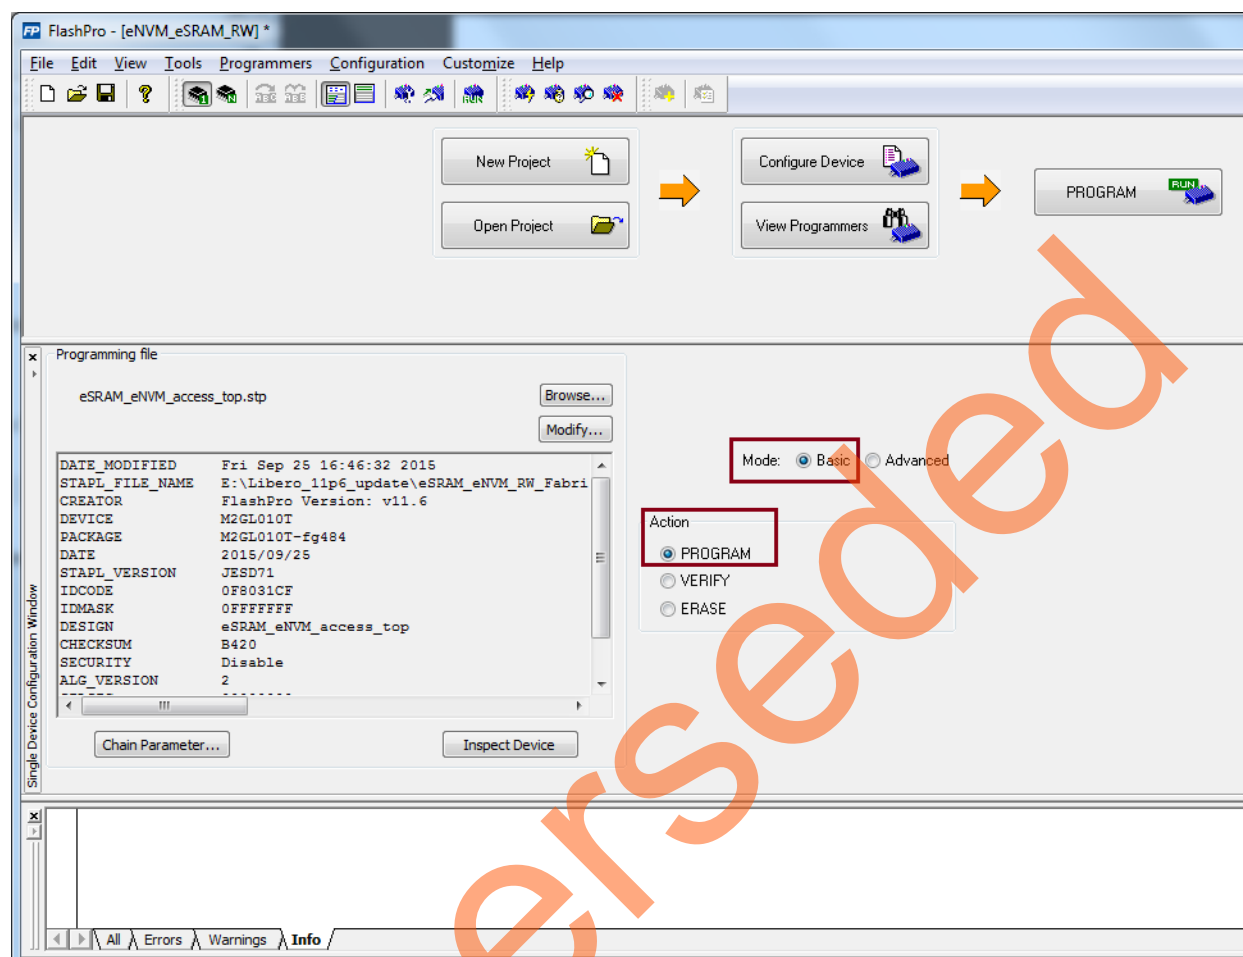

Figure 19 • FlashPro - Project Configuration
1. Click **Configure Device** on the FlashPro GUI, refer to Figure 19.
3. Select **Basic** as Mode and **PROGRAM** as Action highlighted in Figure 19.